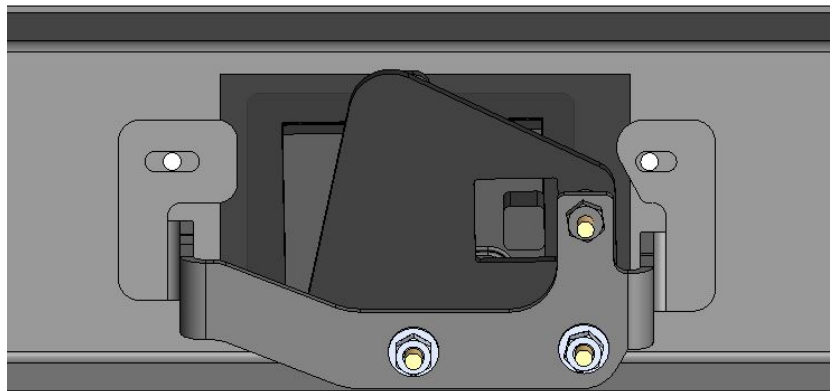

Figure 8
6. Now that the module has been adjusted, sandwich the plastic piece between the ACC bracket and the front face. Using the 1/4" stainless steel bolts, bolt in bracket centering module as much as possible (Figure 8)